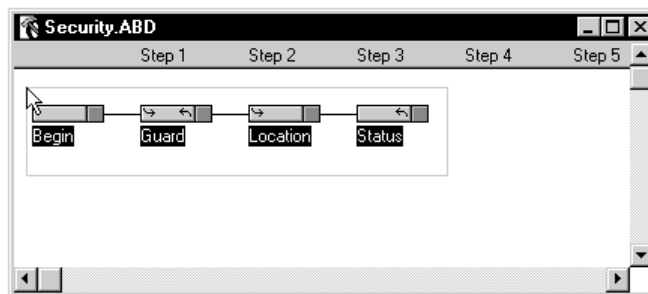
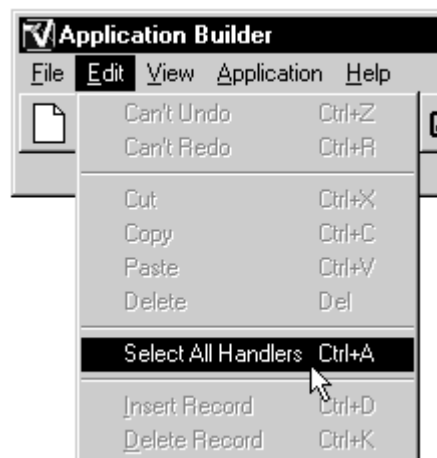

Figure 4-2 Drag Rectangle to Select Input Handlers
Figure 4-3 Edit Menu–Select All Handlers Command
2. Select all of the Input Handlers by dragging a rectangle around them (Figure 4-2), by choosing **Select All Handlers** from the **Edit** menu (Figure 4-3), or by Shift-clicking each Input Handler.